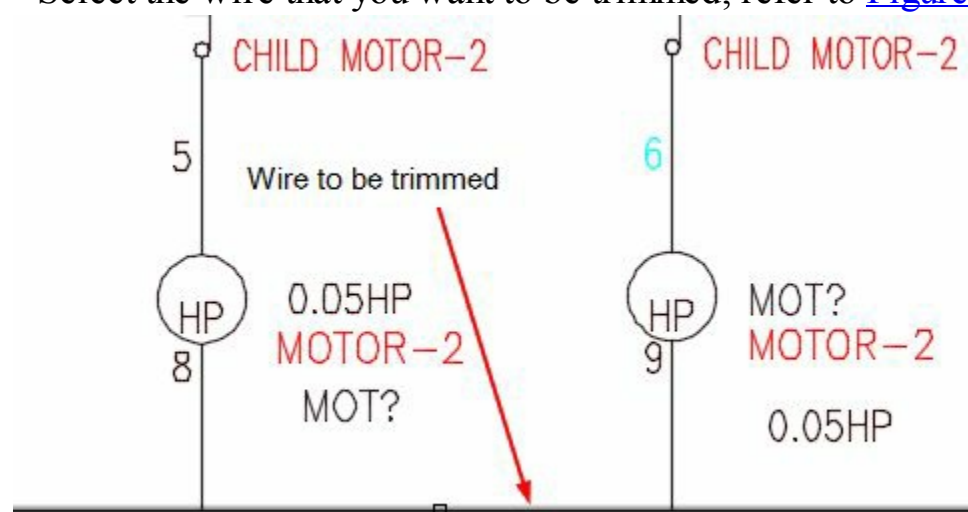

Figure-53. Wire to be trimmed
- Select the wire that you want to be trimmed; refer to Figure-53.